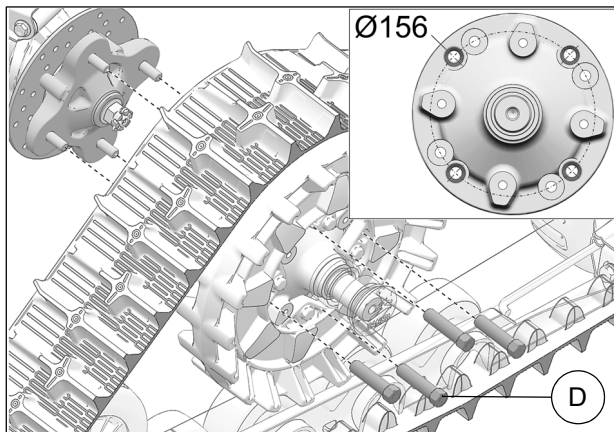

Fig. 11
- Secure undercarriage to rear hub using the provided M12 lug nuts (**D**). Use bolt circle  $\varnothing 156$  mm. See Fig. 11